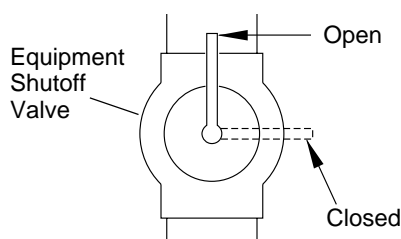

Figure 22 - Equipment Shutoff Valve
1. Close equipment shutoff valve (see Figure 22).
1. Open equipment shutoff valve (see Figure 22).